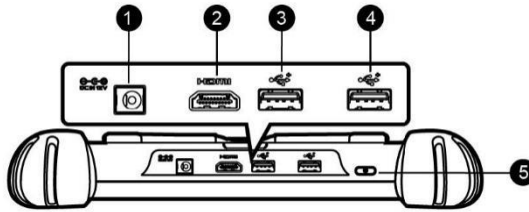

Figure 2-4 MaxiSys Tablet Top View
2. Mini USB (Universal Serial Bus) Port (it cannot be used at the same time with the No. 4 USB Port in Figure 2-4 MaxiSys Tablet Top View)